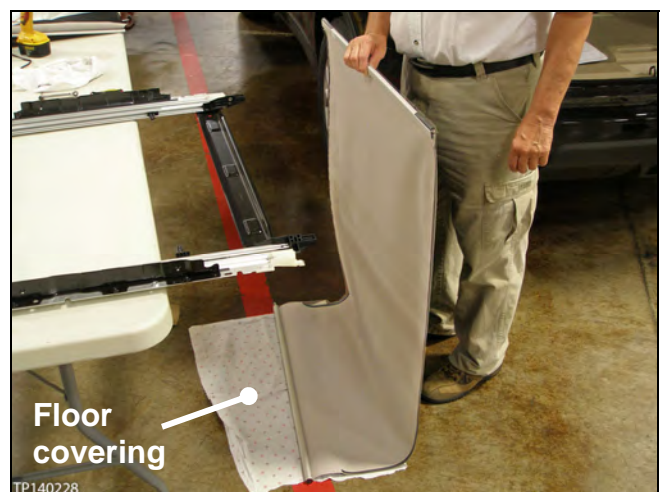

Figure 10
2. Lay a clean fender cover or suitable floor covering below the moonroof (see Figure 10).
3. Unroll the sunshade as shown in Figure 10.